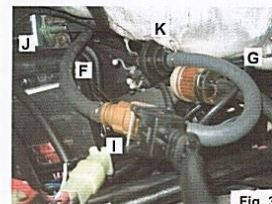

Fig. 3
9. Remove the black hose connecting the choke pod (Fig. 3, J) to the back pressure check valve (Fig. 3, K). Discard the hose.
10. Install the black hose (Fig. 3, F) of the cold start valve assembly (Fig. 3, I) to the choke pod (J), and the gray hose (Fig. 3, G) to the back pressure check valve (K).